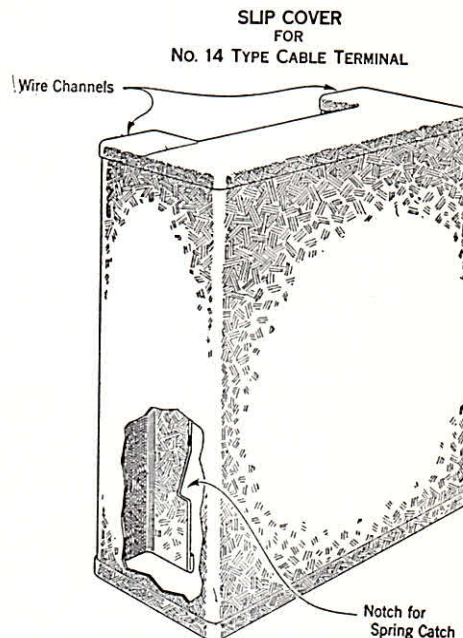

Fig. 1
3.01 The slip cover developed for the No. 14 Type Cable Terminal is of galvanized sheet steel construction and in appearance is very similar to the cover of the F Type Cable Terminal. It encloses the terminal and provides two channels at the rear which house the distributing wires from the bottom of the terminal to the wire entrance holes adjacent to the face plate. Two notches are provided in the folds at the rear of the cover which serve as stops for the spring catch described in the following paragraph. The slip cover is available in three sizes to fit the No. 14-B, No. 14-C and No. 14-D Cable Terminals. See Fig. 1.